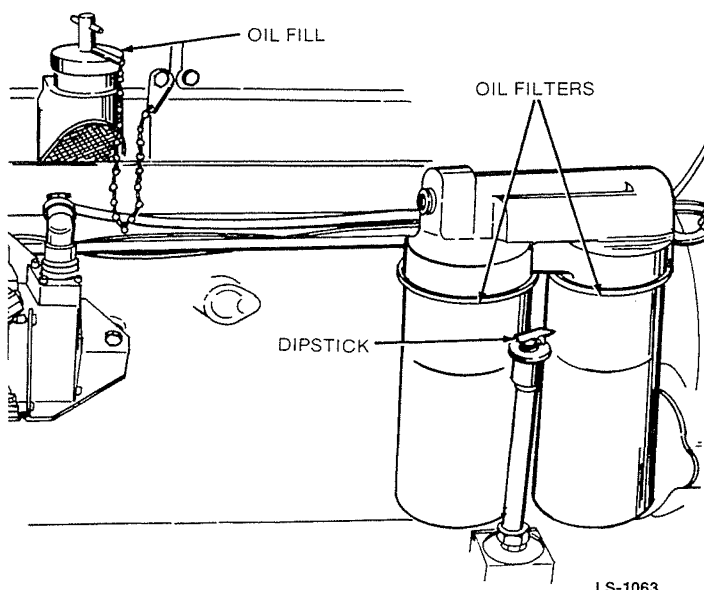

FIGURE 16. ENGINE OIL LEVEL
Check the engine oil level during engine shutdown periods at the intervals specified in the Maintenance Table. The oil dipstick and oil fill are located on the left side of the engine (see Figure 16). The dipstick is stamped with an H (high) and an L (low) to indicate the level of oil in the crankcase. For accurate readings, shut off the engine and wait approximately 15 minutes before checking the oil level. This allows oil in the upper portion of the engine to drain back into the crankcase.
1. Unscrew the "spin-on" type oil filter and discard (see Figure 16).